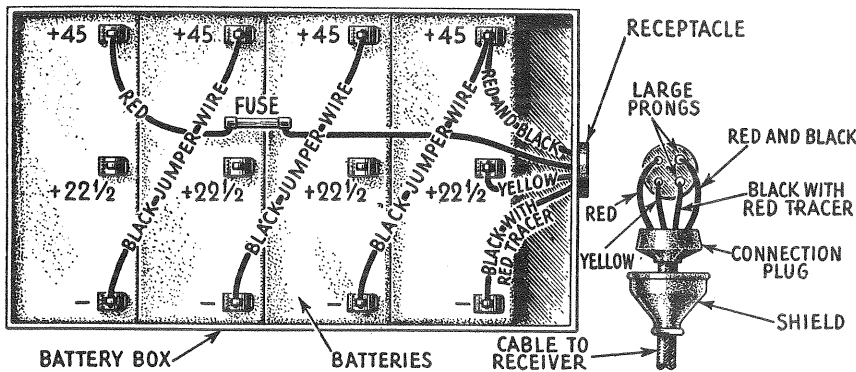
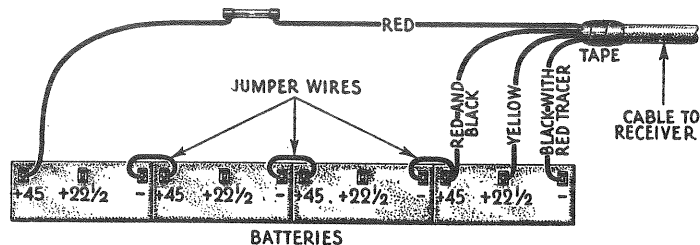

Figure 14—Battery Box Connections
Figure 15—Cable Connections to "B" Batteries.
After fastening the top securely in place, place the "B" batteries in the box and connect them to the receptacle as shown in Figure 14. Slip the cambric cover over the fuse and place the paper strips and plate over the terminals. Then lift the box into place, swing the hanger bolts into place and tighten both nuts securely. Care should be taken to draw up on all four nuts gradually.
**Main Cables to Batteries** Drill  $\frac{1}{2}$ " hole in the toe boards directly below the end of the receiver unit to which connections are made. (If any holes that may be used for this purpose are already available, drilling additional holes is unnecessary). Pass the free end of the cable through the hole and thence to the "B" Battery location. Possibly other holes must also be drilled. Connect the "B" batteries to the cable as shown in Figure 15. The metal braid must be pushed back from the free end and taped so that sufficient length leads are obtained for connecting the batteries. If the battery box is used, solder the four prong plug onto the end of the cable as shown in Figure 14.